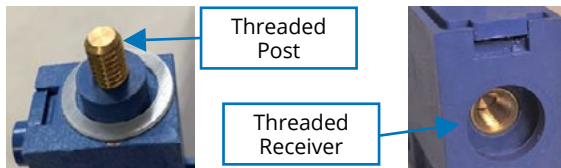

Figure 1
- i. If using the screw-type iMOD, go to Step 1A (Refer to FIGURE 1 for GPS-iMOD screw-type with threaded post).